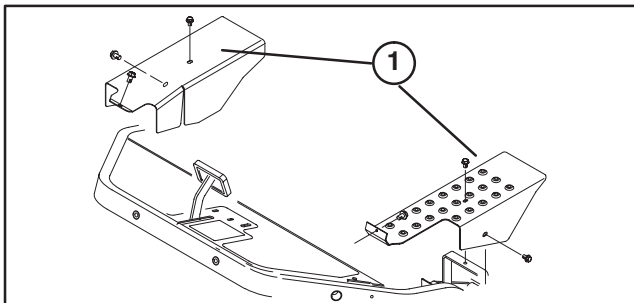

Figure 2
7. To ease installation of kit, it is recommended that right and left wheel shields (Fig. 2) be removed from traction unit.